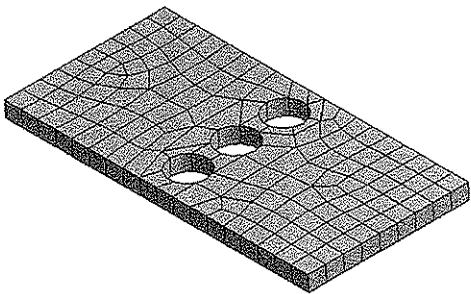

Figure 7-24 Mesh generated for the model
- 3. Choose the **Generate Mesh** option from the shortcut menu displayed; the **ANSYS Workbench Mesh Status** window is displayed. After sometime, the **ANSYS Workbench Mesh Status** window disappears and the mesh is generated, refer to Figure 7-24.